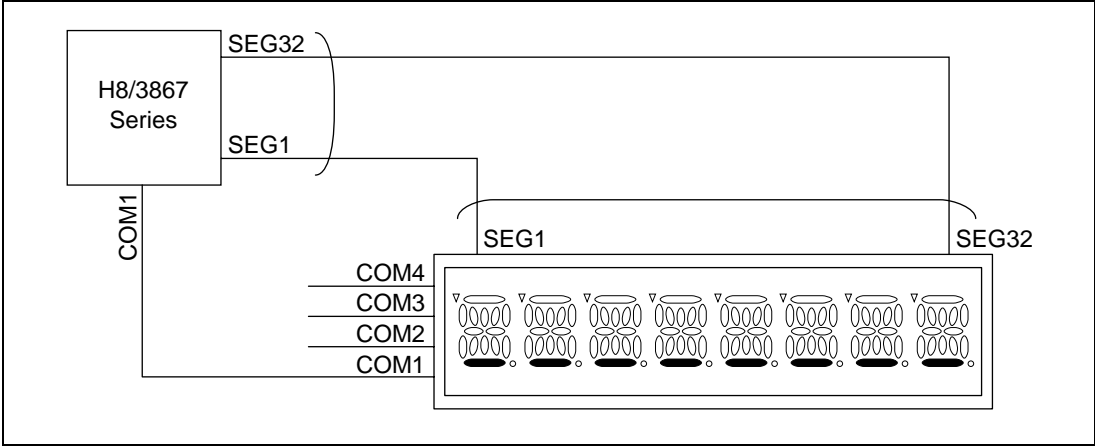

Figure 1 LCD Display Example
- 4. An example of LCD module connection and an LCD display example for this task example appear in figure 1.